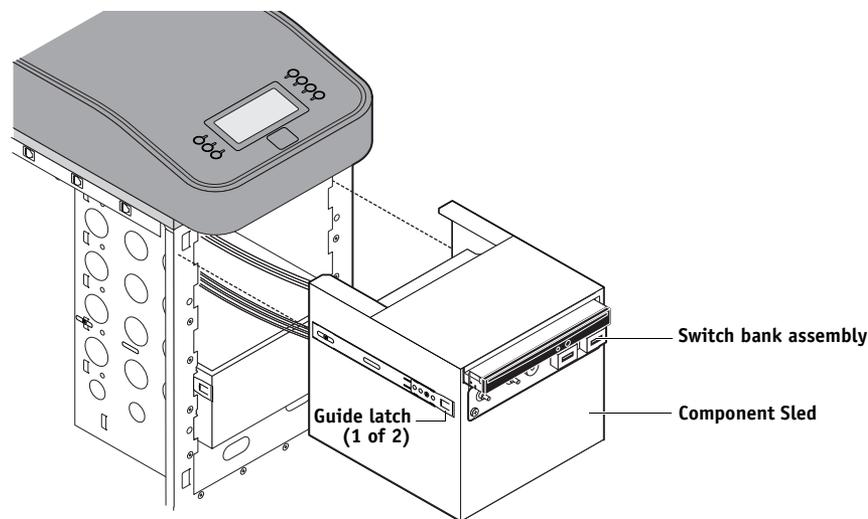

FIGURE 35: Removing/replacing the Component Sled from the chassis
3. **Install the Component Sled in the chassis (see Figure 35).**